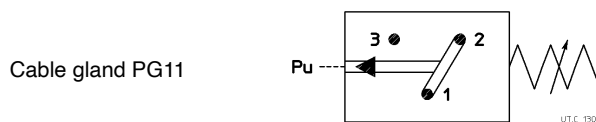

fig. 1
* Resistive load 5V - 250V ~, for wiring diagram see fig.1